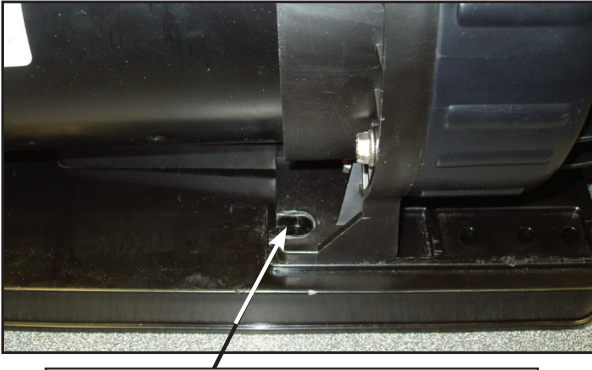

Figure 7 — Plastic pump housing mount
- Pumps with plastic pump housing mounts (see Figure 7) should be attached by aligning the openings with the holes outside the raised area. This type of mount will require the use of TWO mounting bolts from the hardware bag.